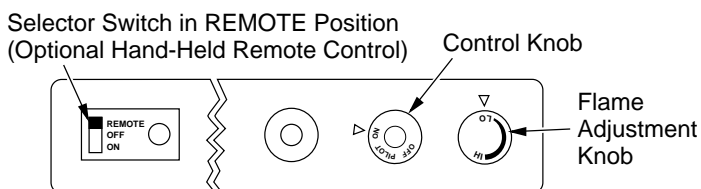

Figure 52- Setting the Selector Switch, Control Knob, and Flame Adjustment Knob for Hand-Held Remote Operation
1. After lighting, let pilot flame burn for about one minute. Turn control knob to ON position. Adjust flame adjustment knob anywhere between HI and LO. Slide the selector switch to the REMOTE position (see Figure 52). **Note:** The burner may light if hand-held remote was on when selector switch was last turned off. You can now turn the burner on and off with the hand-held remote control unit.